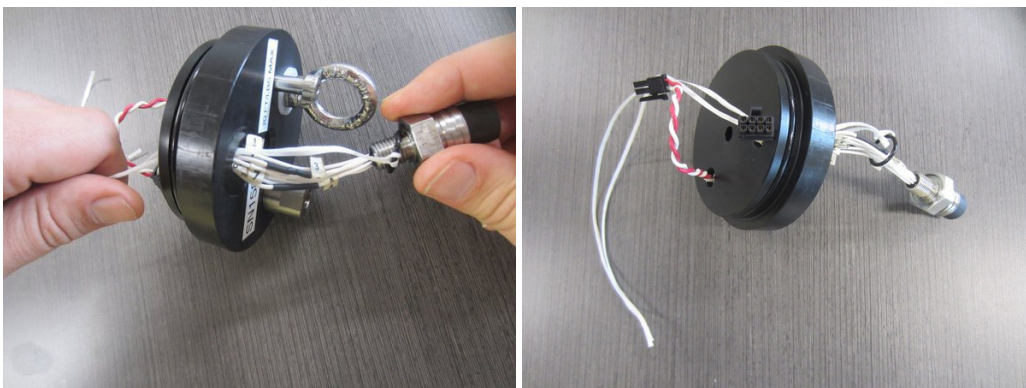

Figure 39: Removal of an O-ring from an MCBH connector (a MicroCTD is pictured).
- **Bulkhead Connector(s):** To remove the connector O-rings, thread string around the O-ring and pass both ends of the string through the threaded hole (Figure 39). Gently pull on the string to pass the O-ring through the hole and around the wiring harness. Reverse these steps to replace this O-ring.